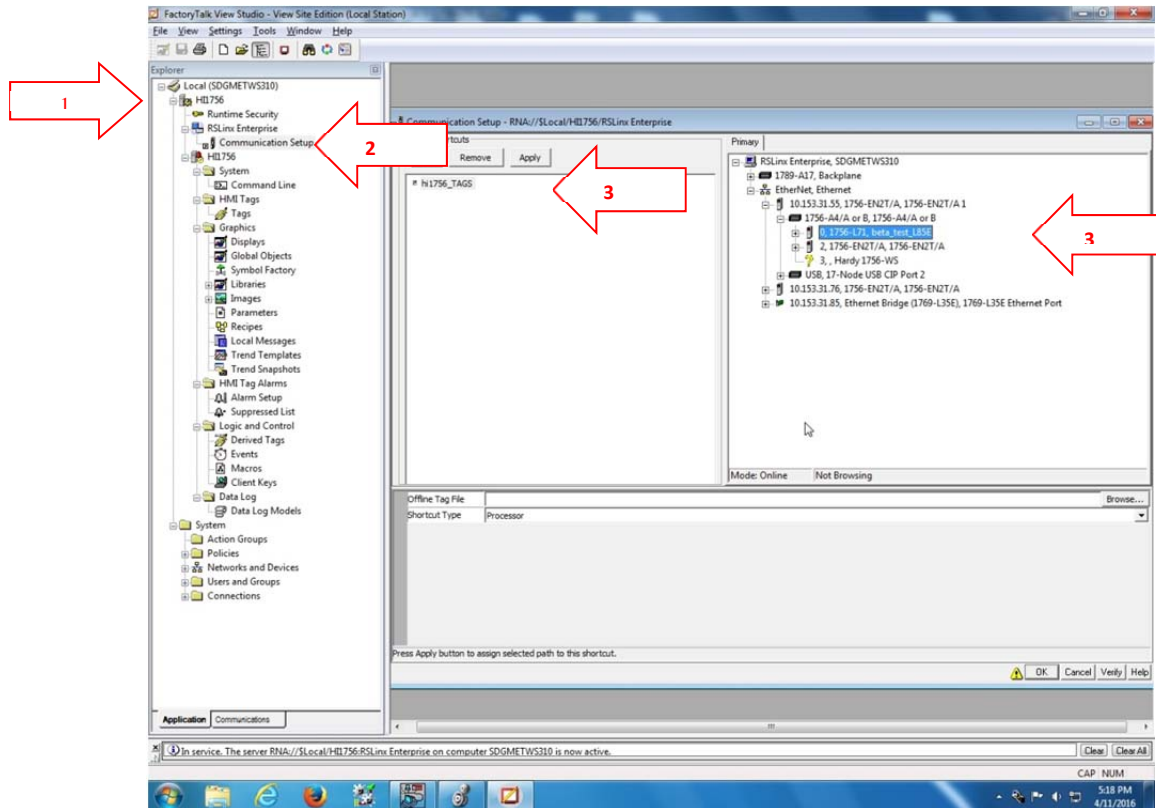

Figure 3
- Right click on the project name in the explorer navigation bar, found under Local (computer name). See Figure 3, note 1.
- First, add a New Server. Select Rockwell Automation Device Server (RSLinx Enterprise); the name can be left alone if it is the only server in the project. Otherwise you will need to specify a different name. RSLinx Enterprise will appear in the explorer project tree; expand and double-click on "communication setup". See Figure 3, note 2.
- In the PRIMARY window expand the driver being used to connect with the PLC processor and highlight the processor. With both the processor and the shortcut tag names now highlighted; click OK then YES to apply changes. See Figure 3, note 3.